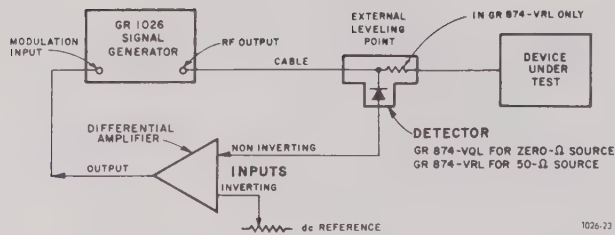
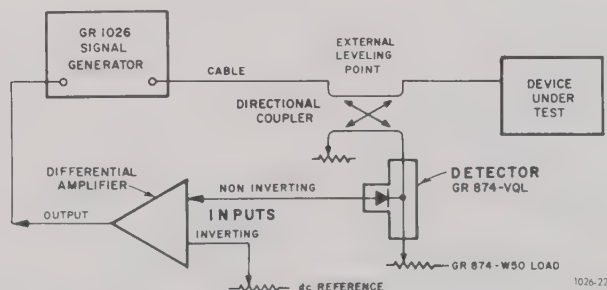

Figure 3-3. External leveling with a nondirectional detector.
Figure 3-4. External leveling with a directional detector.
2. The source impedance offered by the generator at the leveling point will depend on the detector characteristics. In the case of a simple shunt diode detector such as the Type 874-VQL connected as shown in Figure 3-3, the effective source impedance at the diode is zero. A source impedance of 50-Ω can be restored with this connection by adding a 50-Ω series resistor between the diode and the rf load; this resistor is built into the 874-VRL detector. Another way of maintaining 50-Ω source impedance is to use a directional coupler as shown in Figure 3-4, so that the detector sees only the forward-wave component at the leveling point. In this case both the effective source impedance and the leveling vs frequency characteristics depend on the characteristics of the coupler. The high output available from the 1026 permits the use of relatively weak coupling; a 10 dB coupler will usually be satisfactory.